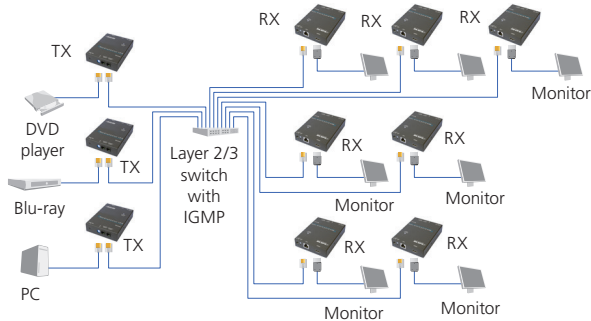

Figure 3-1. Installation diagram.
*NOTE: Figure 3-1 shows this installation.*